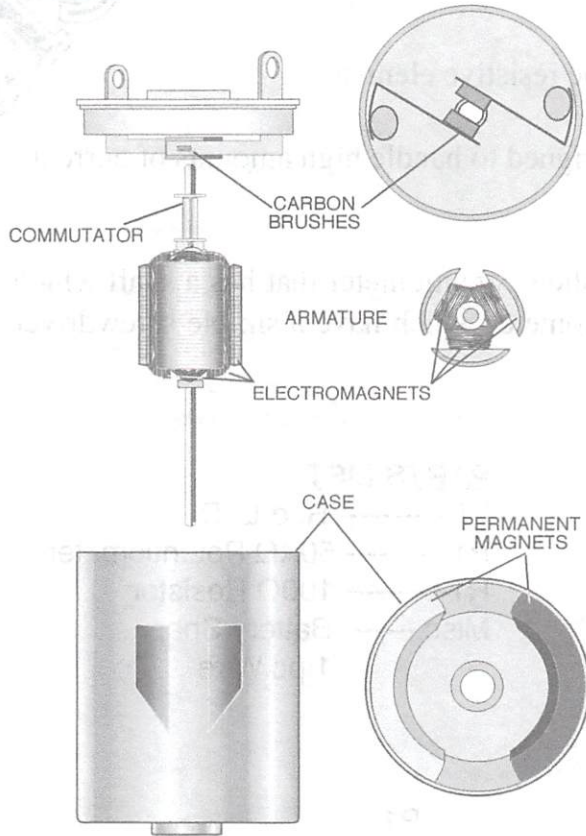

FIG. 1
2. In the diagram of a potentiometer shown in Fig. 1, does the resistance between terminals 1 and 3 vary?
The DC power that causes the shaft to move is brought into these electromagnets by carbon brushes that touch the commutator. As power is brought into the different electromagnets through the brushes and commutator, the shaft rotates. This occurs because the coils have been wound in a way that in conjunction with the commutator, the electromagnetic forces reacting with the two permanent magnet fields changes continuously. The constantly changing magnetic fields causes the armature to rotate as long as power is applied (see Fig. 1).